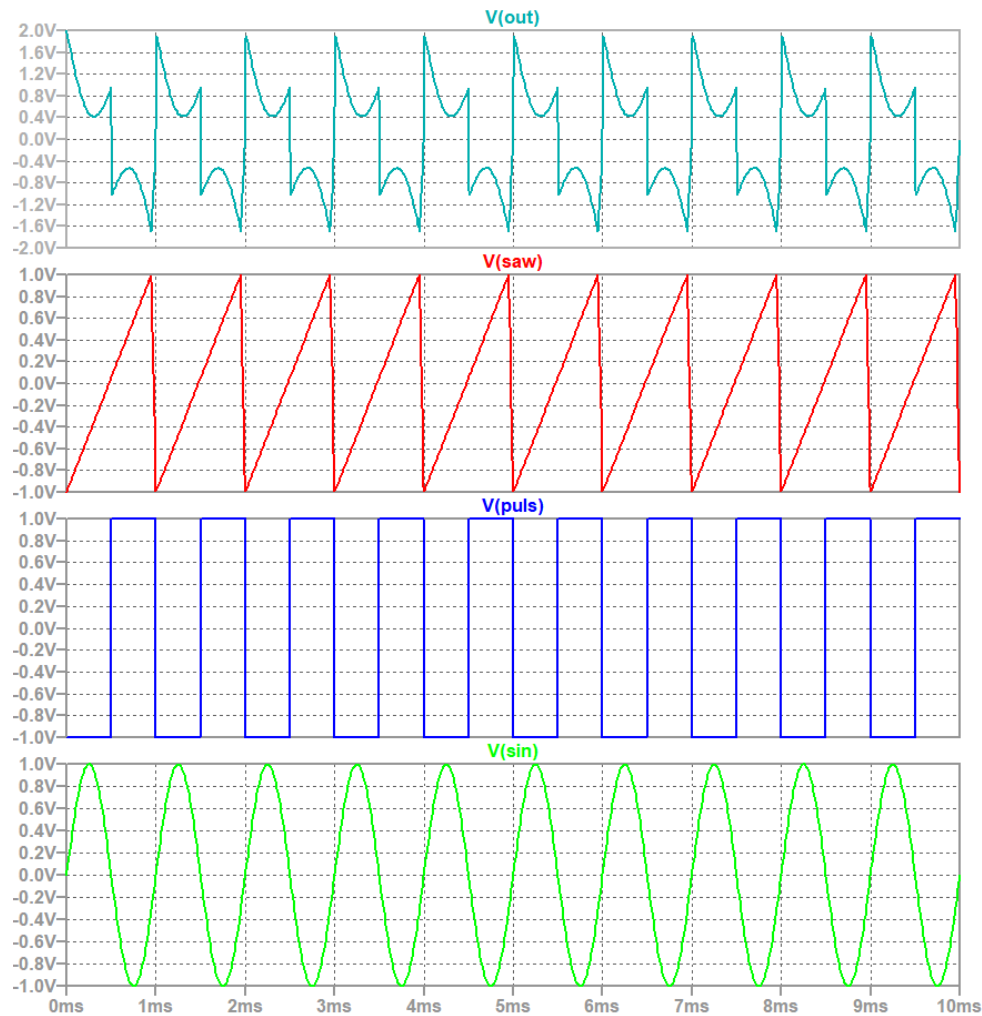

Fig. 5. Waveforms in the adder circuit.
- Plot the voltage waveforms: input *sin*, *pulse* and *saw* and output *out* on separate graphs (Fig. 5).